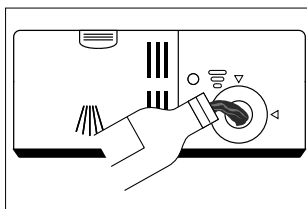

Fig. 10
- ▶ Fill the rinse aid up to the "MAX" mark (see **Fig. 10**). Make sure the container does not overflow.